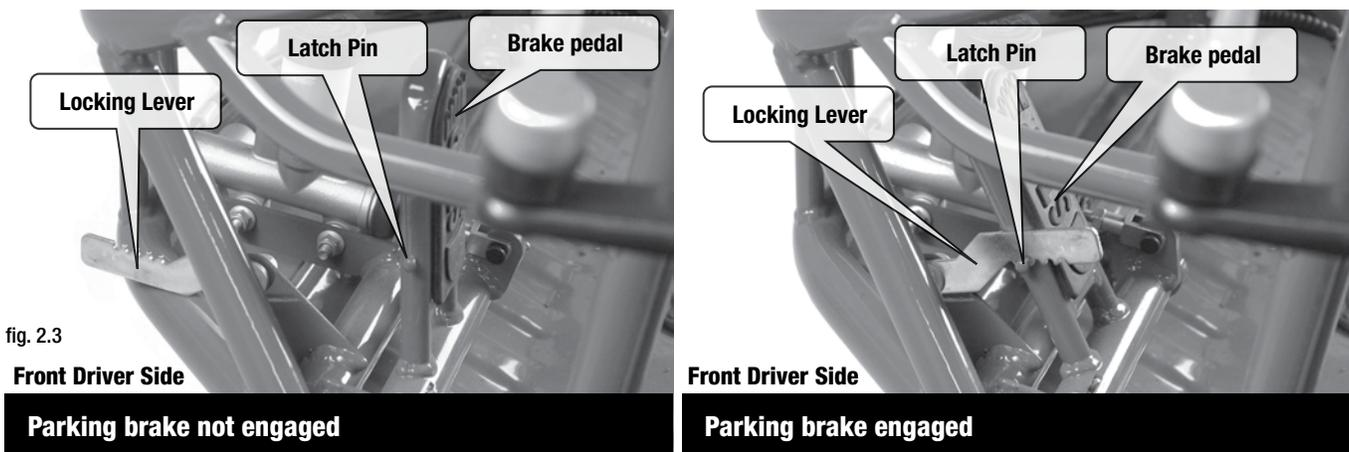

fig. 2.3
J. Park Brake (see figure 2.3)